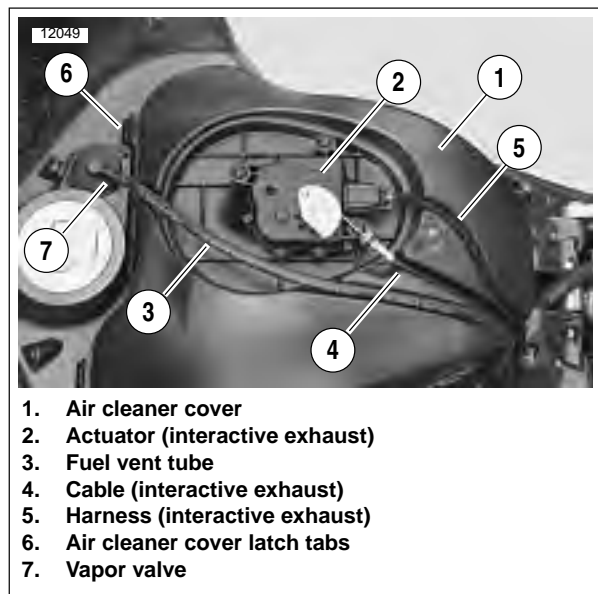
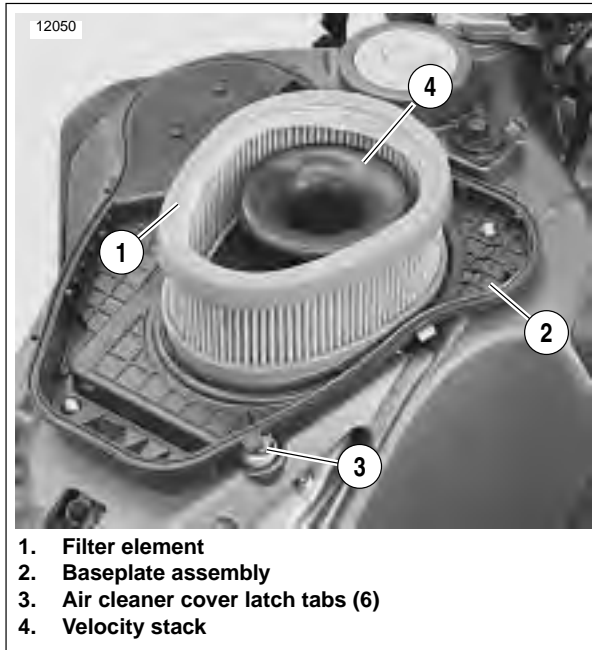

Figure 1-43. Air Cleaner Cover, Fuel Vent Tube and Fuel Vapor Valve
Figure 1-44. Installed Air Cleaner Filter Element
3. See Figure 1-43. Remove fuel vent tube (3) from vapor valve at front of air cleaner cover and groove on top of air cleaner cover (1).
4. Unlatch six latching tabs (6) and remove air cleaner cover from baseplate.
5. See Figure 1-44. Remove the filter element (1) from baseplate (2). Inspect and replace if necessary.
See Figure 1-44. Cover the velocity stack so nothing can drop into the motor.
1. See Figure 1-44. Place filter element (1) on baseplate (2).
3. Install air cleaner cover by latching six latch tabs (3) to baseplate.
5. See Figure 1-43. Position fuel vent tube (3) in groove on top of air cleaner cover and connect to fuel vent valve (7). Secure vent tube to vent valve with **new** cable strap.